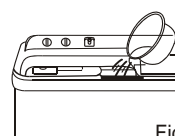

Figure 1
1. Fill the water and add the dissolved washing powder to make the water level reach the preset position. (Figure 1)